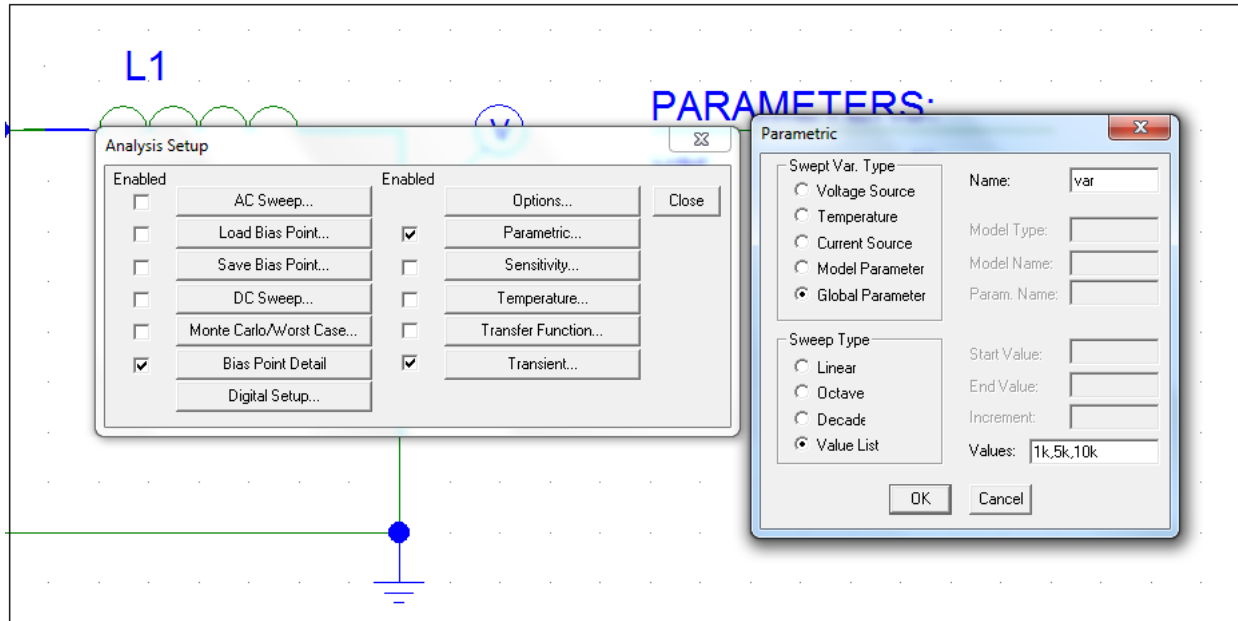

Fig 5.5: Analysis Setup.
- 5- In order to show the simulation result, go to  (**Analysis Setup**), Check Transient, Parametric. Then fill the parametric window as shown in fig 5.5.